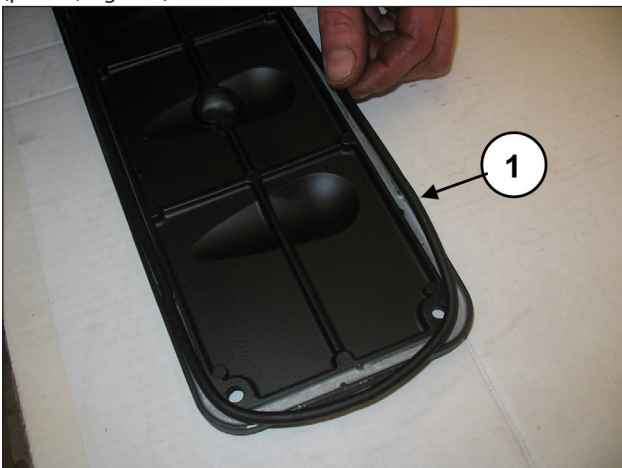
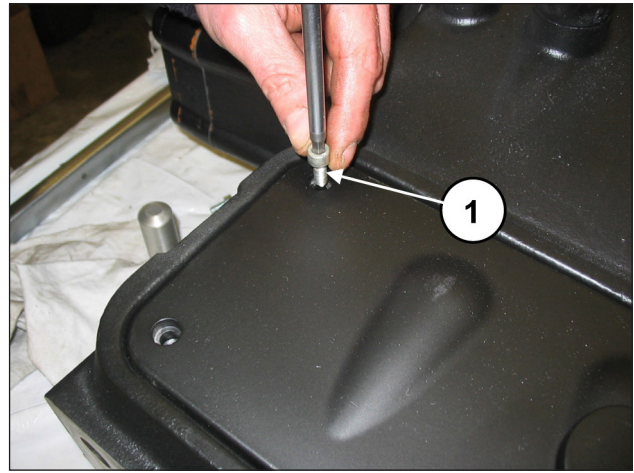

Fig. 173
Fig. 174
On the inspection covers insert the O-ring (pos. ①, Fig. 173) and assemble the covers with the use of 4+4 M6x14 screws (pos. ①, Fig. 174).